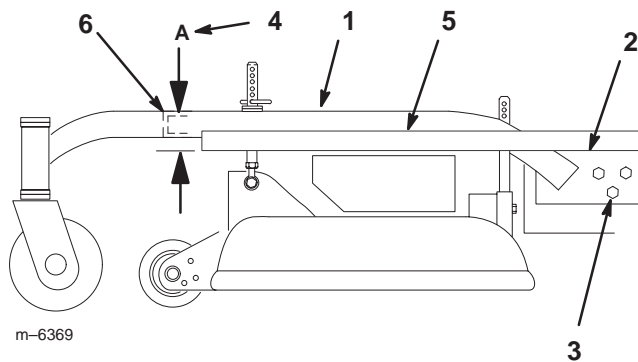

Figure 50
- Place a long straight edge on top of the engine deck as shown in figure 50.
- At the carrier frame cross tube, measure location **A** height (Fig. 50). This measurement must be 1-5/16 inch (33 mm), plus or minus a 1/4 inch (6 mm).
- Loosen the carrier frame mounting bolts on both sides of the machine (Fig. 50).
- Align the carrier frame and engine deck to match 1-5/16 inch (33 mm), plus or minus a 1/4 inch (6 mm) at location **A** (Fig. 50).